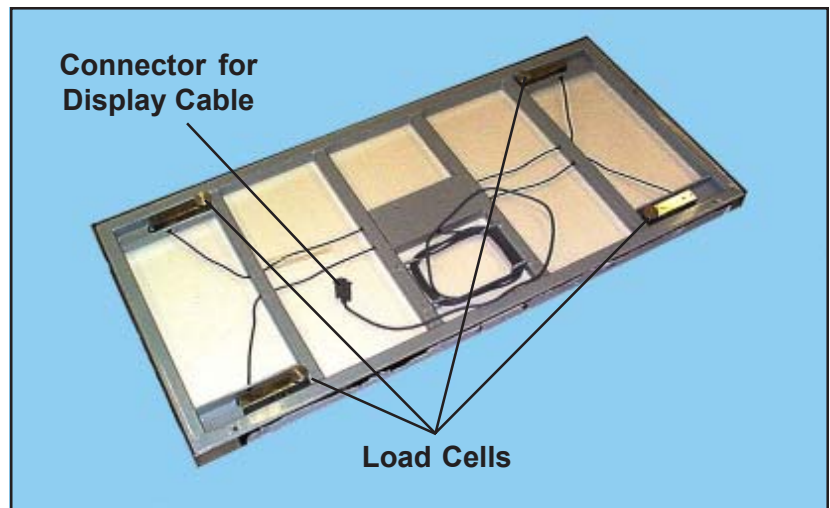

Figure 56. Underside of Electronic Scale
3. With a flat-blade screwdriver, remove the four mounting screws and washers under the scale (Figure 56).
1. Place the scale on the unit so that the load cells under the scale line up with the mounting holes on the unit frame (Figures 56, 57, and 58). Make sure that all four load cells rest on the frame arms and that the scale is stable and does not rock. **Note:** The display cable should exit to the rear for convenient routing to the display console.